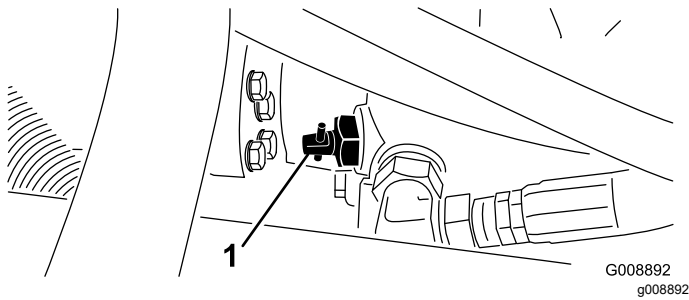

Figure 32
1. Locate the bypass valve on the pump (Figure 32) and rotate it 90°.